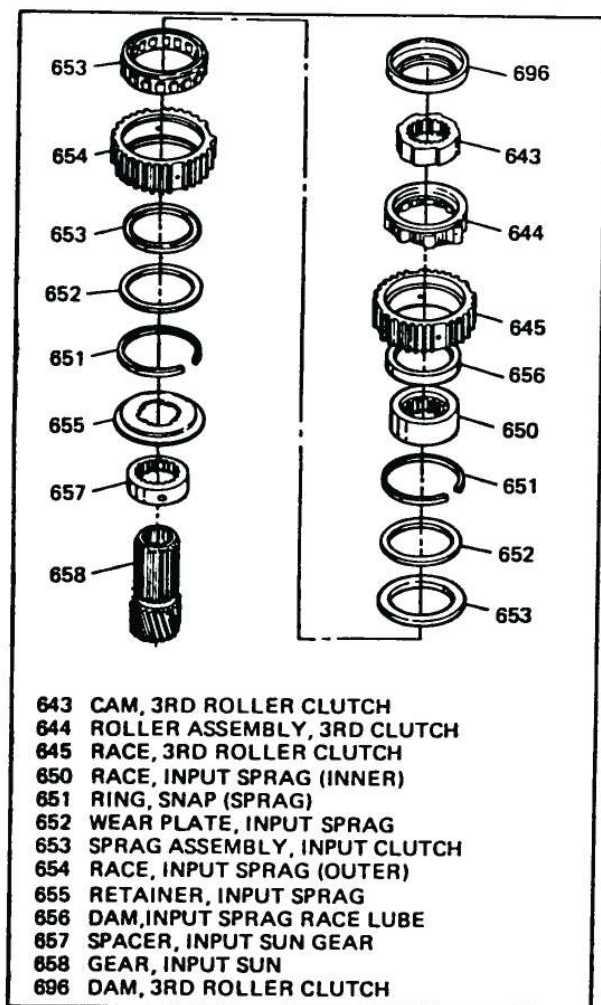

Figure 70
1. Remove 3rd roller clutch and input sprag from the input sun gear. (Figure 70).
2. Remove input sun gear retainer and spacer from sun gear (See Figure 70).
16. Install spacer (657) onto input sun gear with the inside step towards the sun gear.
17. Install sprag retainer onto the input sun gear (See Figure 70).